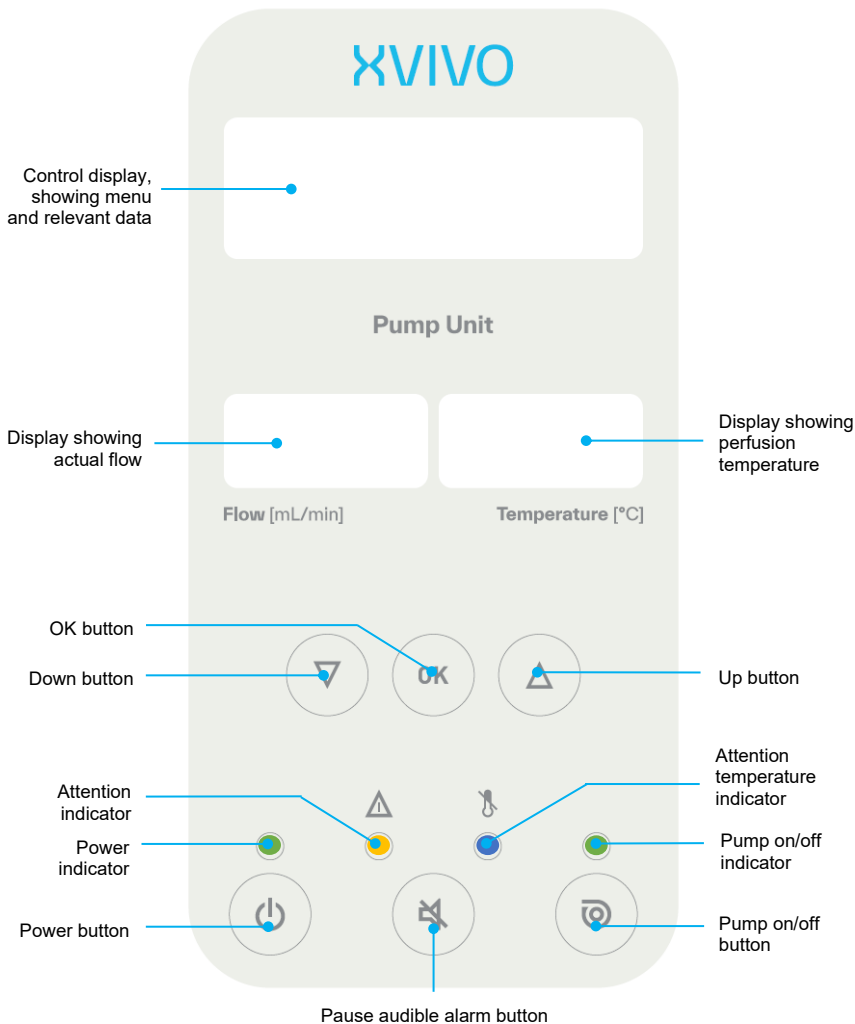

Figure 3 Control panel Pump Unit
- Connect the pump head to the magnetic pump coupling located on the outer side of the Kidney Assist Pump Unit (Figure 3, item 13).